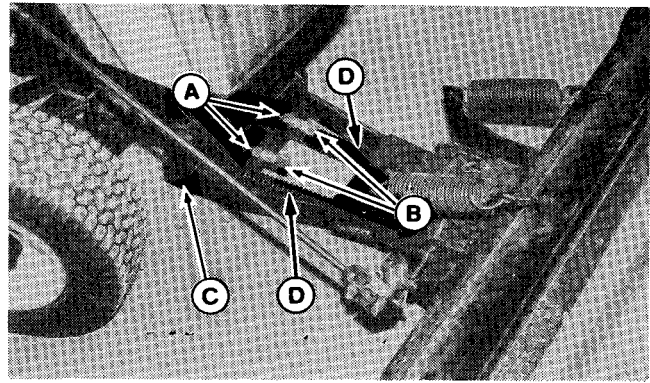

Figure 14.
2. At transport position, the rear of the dozer hitch (C, figure 14) should not touch tractor upstops. To check, with blade in raised position, raise up on blade by hand. You should be able to raise blade on or two inches before dozer hitch touches tractor upstops. To adjust dozer height:
- a. Loosen both locknuts (A, figure 14)
- b. Turn bolts (B) in equal amounts. Turn bolts in (clockwise) to lift blade; turn bolts out (counter-clockwise) to lower height.
- c. Retighten nuts (A) when adjustment is correct.
Each of the two long springs (D, figure 14) is secured onto rod with a nut. To increase the pressure of the blade on the surface, turn these nuts to compress springs. To allow the blade to float over the surface, back off the nuts, reducing spring compression. Always leave at least two full threads at end of rods.